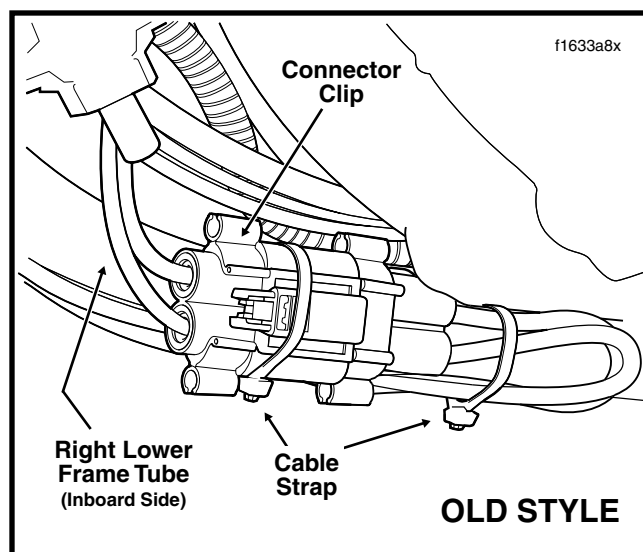

Figure 1. Stator/Voltage Regulator Connector (Left Side View)
1. Moving to right side of vehicle, carefully cut two cable straps holding stator/voltage regulator connector/clip and cables to lower frame tube. See Figure 1.